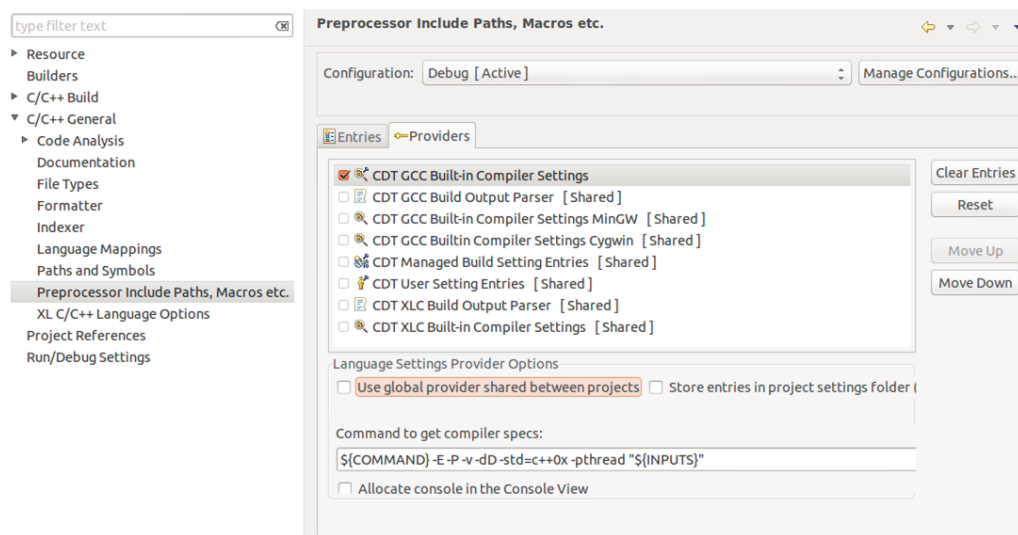

Figure 3: Project settings
- add "*-std=c++0x*" to "*Command to get compiler specs*" textfield that is now active (see Figure 3). Click "*Apply*" and "*OK*".